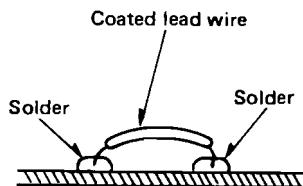

Fig. 22
1. If the chip jumper is removed, connect a coated lead wire to the part. (See Fig. 22). Chip jumper is marked with "J" on the printed circuit board.